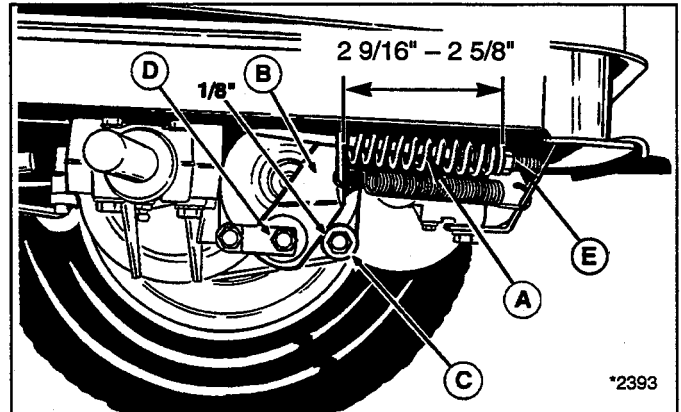

Figure 24. Brake Adjustment (Gear Model)
2. Move the brake lever (B) forward. There should be a  $1/8"$  gap between the lever (B) and the stop (C) as shown in figure 24.
3. To adjust clearance, turn nut (D) clockwise to decrease the gap or turn nut counterclockwise to increase the gap.
4. Set the parking brake. Loosen or tighten adjustment nut (E) to achieve a  $2\ 9/16"$ – $2\ 5/8"$  compressed spring length as shown in figure 24.